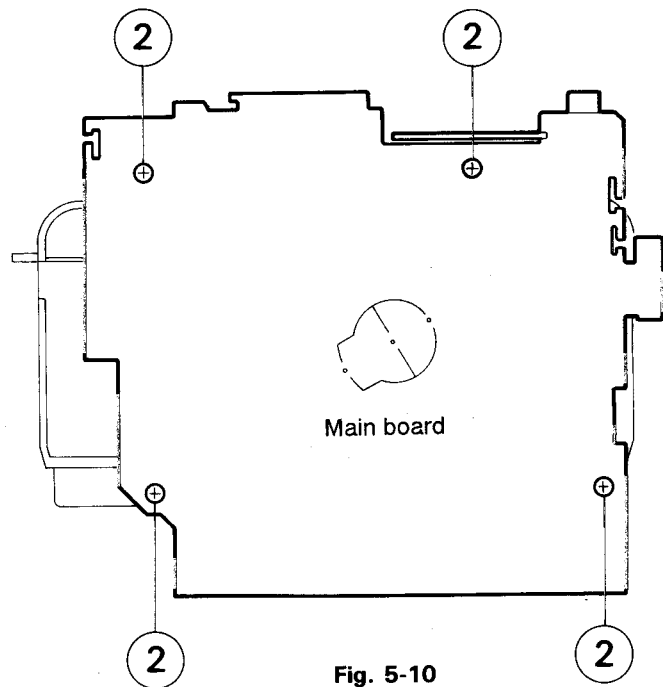

Fig. 5-10
2. From the back of the cassette mechanism assembly, remove the four screws (2) retaining the main board (See Fig. 5-10).